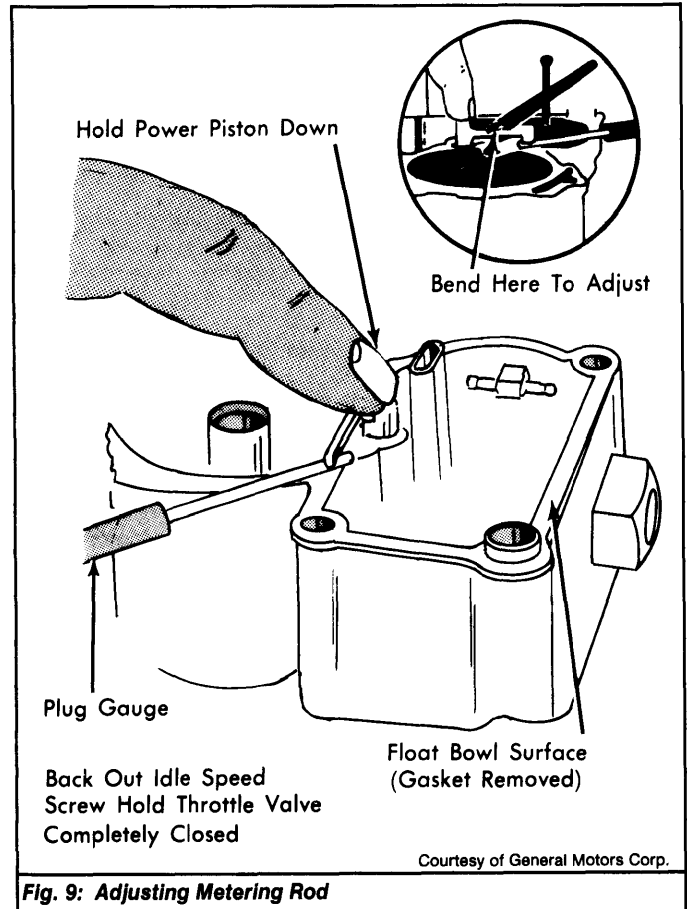

Fig. 9: Adjusting Metering Rod
- All Models Except Astre & Vega** - 1) Remove air horn and gasket. Hold throttle valve wide open. Push down on metering rod against spring tension. See Fig. 9. Slide metering rod out of slot in holder and remove from main metering jet.